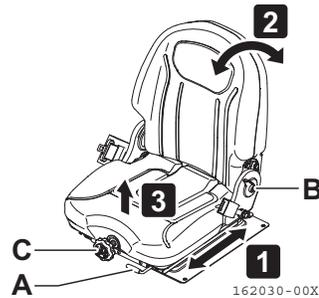

Fig. 2-80
Pull the slide lever (Fig. 2-80, A) upward, to move the seat forward or backward. Adjust the seat to the best position for operating the control levers.
Pull the lever (Fig. 2-80, B) upward to adjust the backrest to the desired position.
The weight adjustment dial (**Fig. 2-80, C**) is turned and it can adjust to the hardness of the bearing surface cushion with the operator's weight.
- Turn the weight adjuster dial (**Fig. 2-80, C**) clockwise the setting weight is increased.
- Turn the weight adjuster dial (**Fig. 2-80, C**) counterclockwise, the setting weight is decreased.